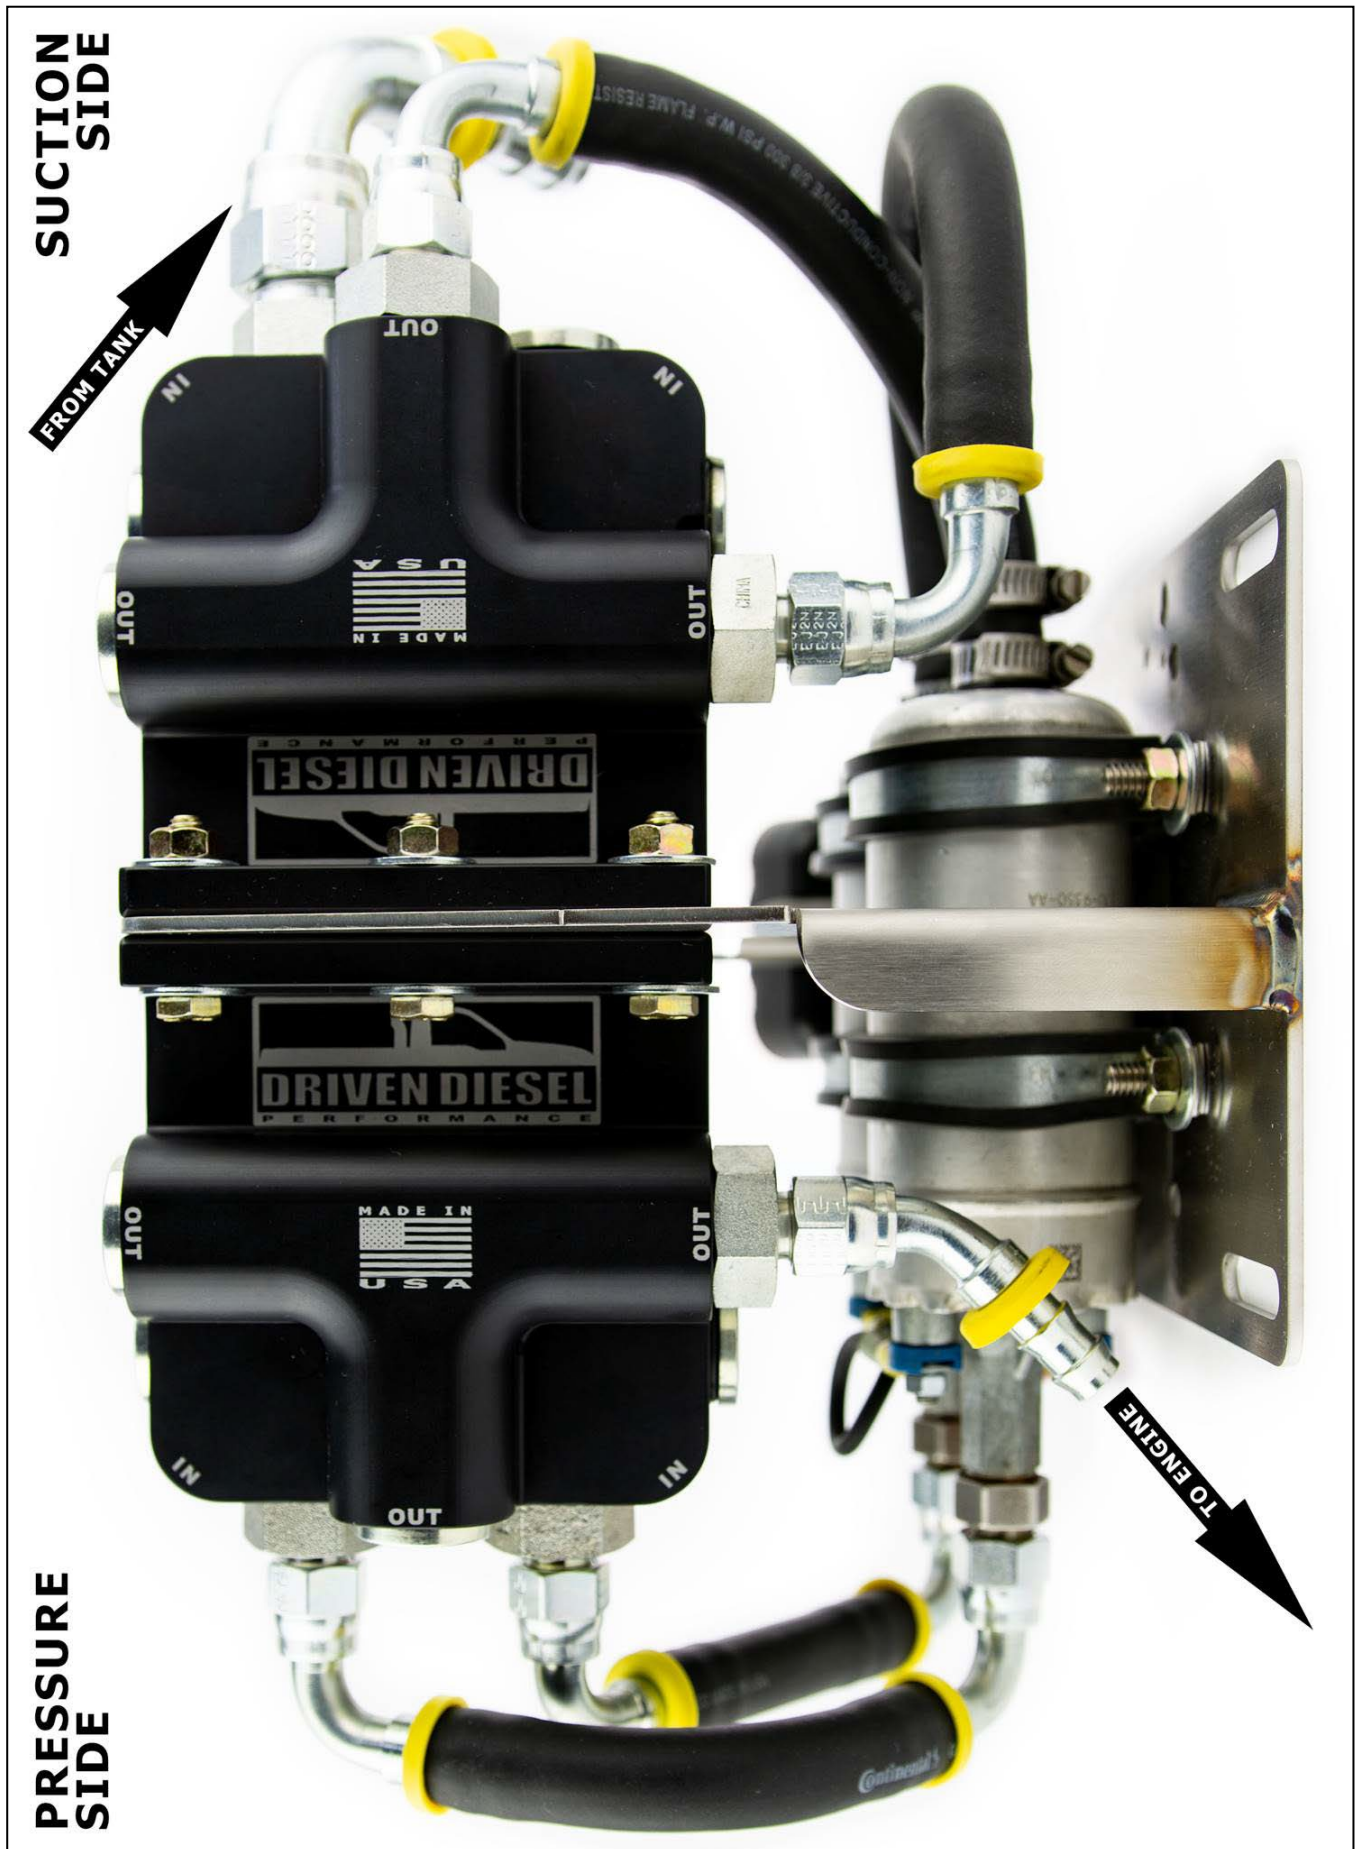
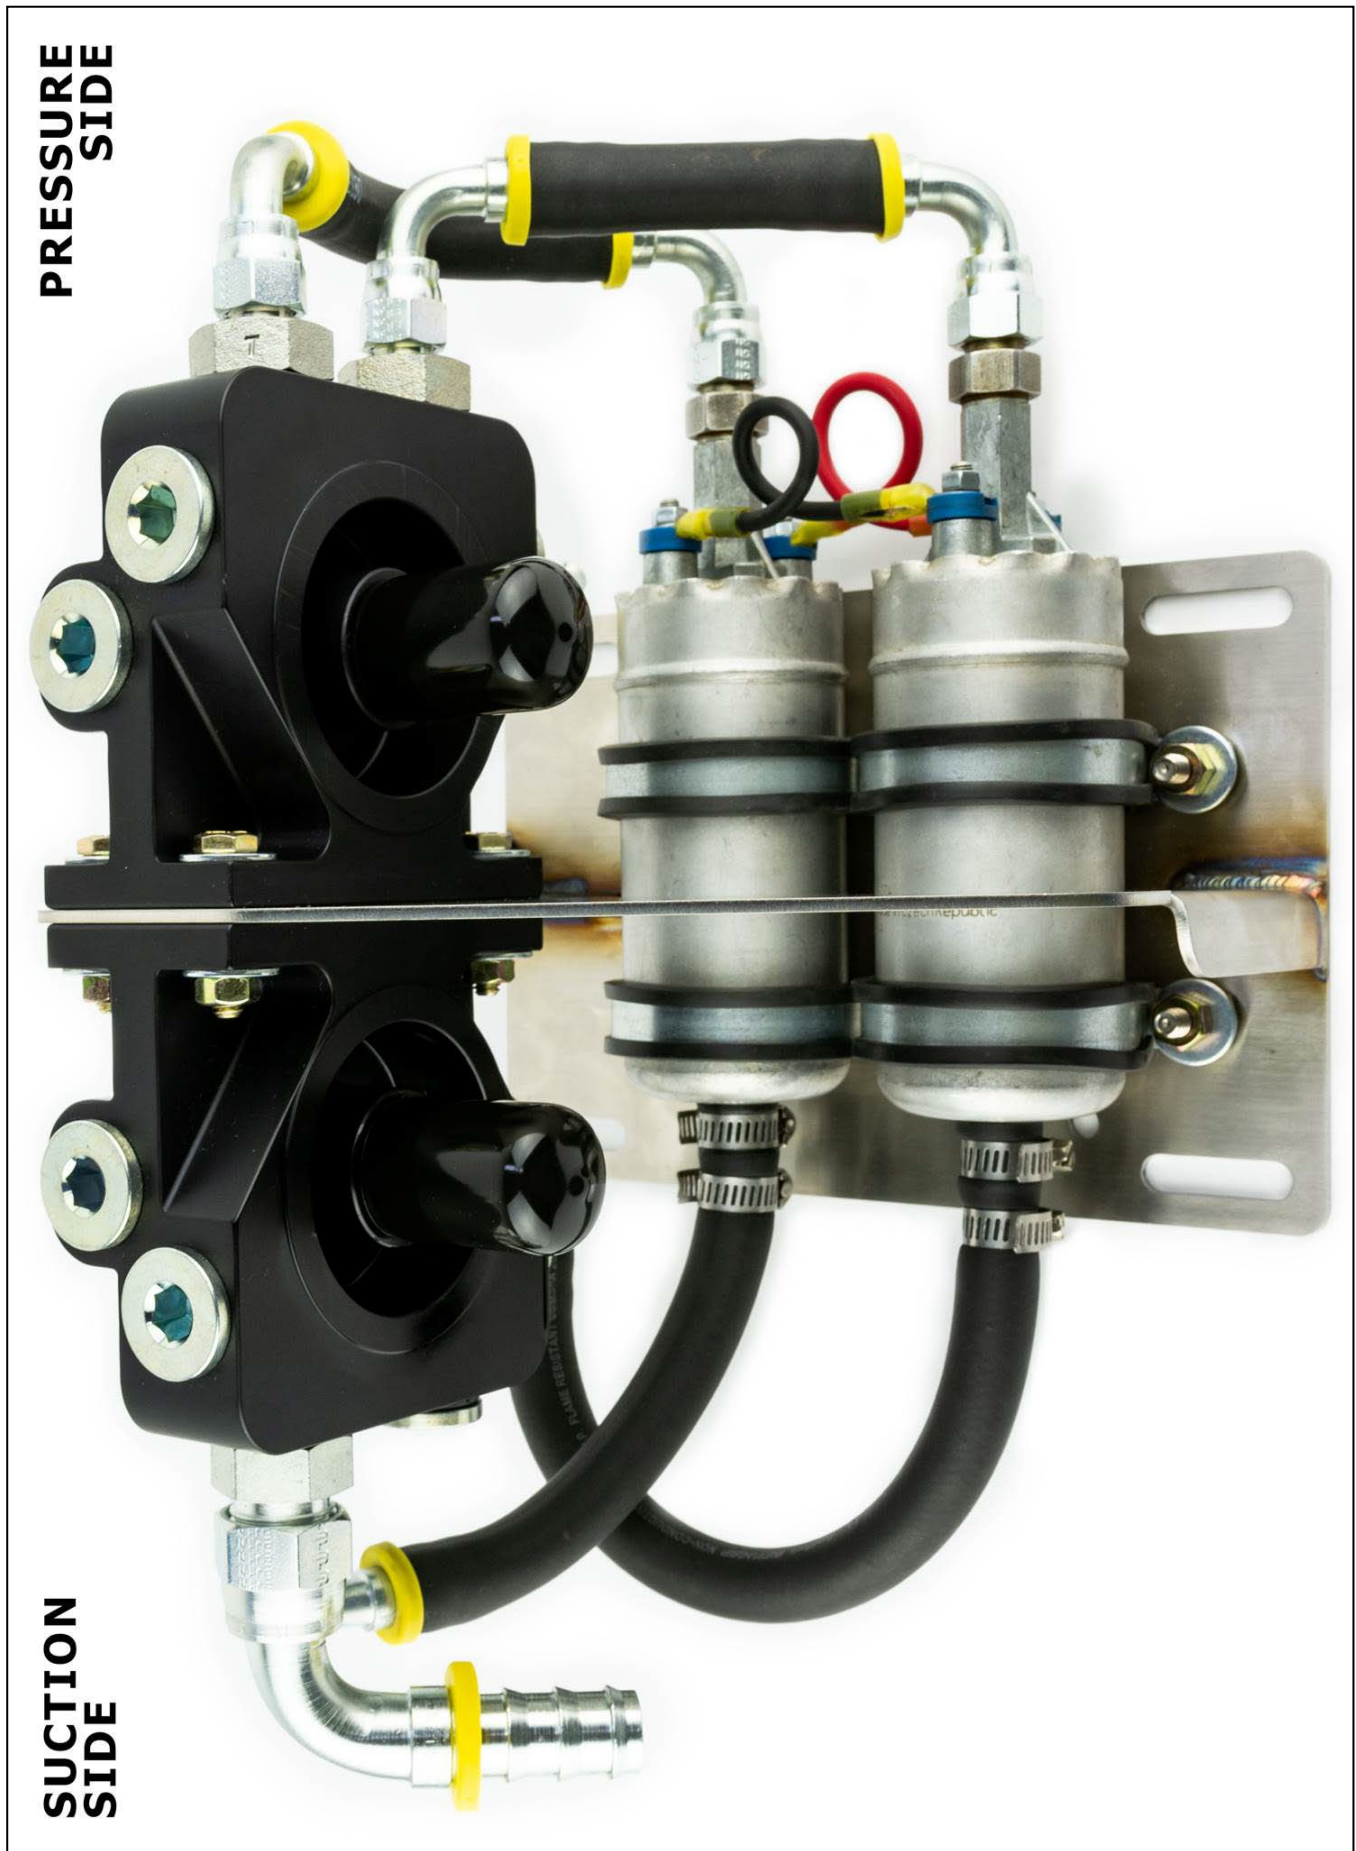

Figure 1 – Top View Of Pump/Filter Assembly – “Inside the Frame” Orientation
Figure 2 – Pump Inlet on Left – Pump Outlet on Right – “Inside the Frame” Orientation
1. Install the (2) DD-10MM-06MJ Driven Diesel Fuel Pump Outlet Adapters with Copper washers into the outlets of the (2) new DD-OE-BOSCH fuel pumps.
2. LOOSELY Install both fuel pumps onto the mounting studs of the mounting bracket using the (4) rubber isolated clamps, (4) ¼" Flat Washers and (4) ¼-20 Nylok Nuts (finger tight for now). Make sure you pay attention to the orientation of the pump, the inlet nipples will point to the left (inside the frame location) or right (outside the frame location) when viewing the bracket from the pump side, depending on your installation needs.
3. Install the (2) DD-BFFH Filter Heads to the bracket using the (5) ¼-20 x 1¼" bolts, (10) Flat Washers and (5) ¼-20 Nylok Nuts.
4. Install the (1) 10MB-10MJ adapter fitting into the IN port of the pre-filter (the one that will be closest to the fuel tank, and at the same end as the inlet nipple of the pump). It's a good idea to lightly lubricate the o-ring with some diesel fuel so it don't tear during installation.
5. Install the (5) 10MB-06MJ adapter fittings (2 for pre-filter OUT, 2 for post-filter IN and 1 for post-filter OUT) and the (8) allen style plugs into the filter heads. It's a good idea to lightly lubricate the o-rings with some diesel fuel so they don't tear during installation.
6. Using a ruler or straight-edge, adjust the position of the fuel pumps so that the ends of the DD-10MM-06MJ outlet adapters are aligned with the ends of the 10MB-06MJ fittings in the IN ports of the filter head (see Figure 2).
11. Using Figures 2 & 3 for guidance, install another 06NC-06FJX90 3/8" 90° hose end into the end of the remaining 3/8" hose and loosely connect it to one of the PRE FILTER OUTLET fittings. Route the hose to the corresponding PUMP INLET NIPPLE and determine where to cut it off. Install (2) WGN-06SS hose clamps over the hose and then firmly push the hose onto the pump nipple, all the way up against the body of the pump. Tighten one worm gear clamp on either side of the "ridge" in the pump nipple, then tighten the 90° hose end at the fuel filter fitting.
12. Repeat step 11 for the remaining PRE FILTER OUTLET to fuel pump inlet hose, using one more 06NC-06FJX90 3/8" 90° hose end and (2) more WGN-06SS hose clamps.
**YOUR ASSEMBLY SHOULD LOOK LIKE FIGURES 1 & 2.**
13. Take the assembled Pump/Filter Bracket & the black "L" Bracket under the truck. Using a large C-Clamp, secure the "L" Bracket to the bottom of the frame in your chosen location. You can now install the Pump/Filter Bracket over the (4) mounting studs on the "L" Bracket and check for clearance all the way around the assembly. Adjust the position of the "L" Bracket on the frame, as well as the position of the Pump/Filter Bracket on the "L" Bracket until you are happy with the chosen mounting location. This process allows you to easily move the assembly around on the frame by simply loosening and retightening the the C-Clamp.
14. Before you remove the C-Clamp, using the (3) slots on the bottom of the "L" bracket, mark the location for the (3) 3/8" holes that need to be drilled, ideally as close to the middle of the bottom of the frame as possible. Then, remove the C-Clamp and Bracket.
16. Once the holes are drilled, install the "L" Bracket to the frame using the (3) 3/8-16 Grade 8 Bolts, (6) 3/8" Grade 8 Flat Washers and (3) 3/8-16 Grade 8 Nylok Nuts. We prefer to install the bolts pointing up from the bottom and have the nuts on the top for a better look, but you **MUST** make sure that the bolts are not sticking up into anything they could damage over time (wiring harness, brake line, etc). Installing the bolts pointing down may be safer in some locations.
17. Install the Pump/Filter Bracket to the "L" Bracket using the (4) 5/16 Grade 8 Flat Washers and (4) 5/16-18 Grade 8 Nylok Nuts.